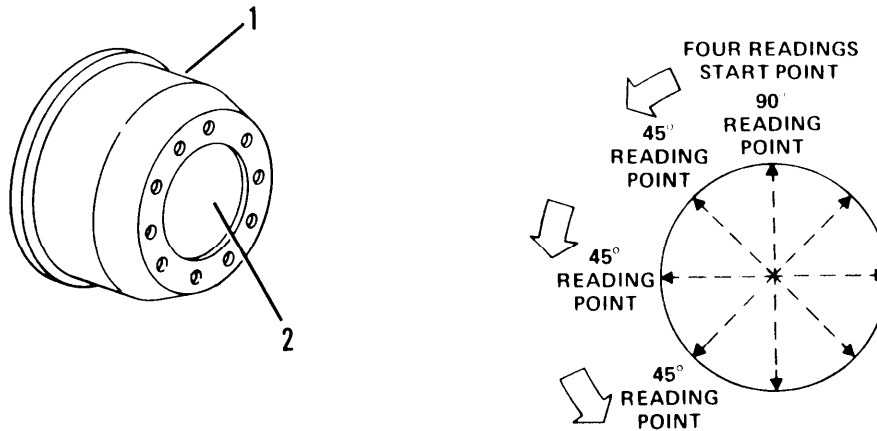

Figure 5-8. Checking Brake DRUM for Out-of-Roundness
- a.** Clean brake drum (1, fig. 5-8) with dry cleaning solvent (PD-680).
- b.** Check brake drum (1) for wear, cracks or damage. Replace, if necessary.